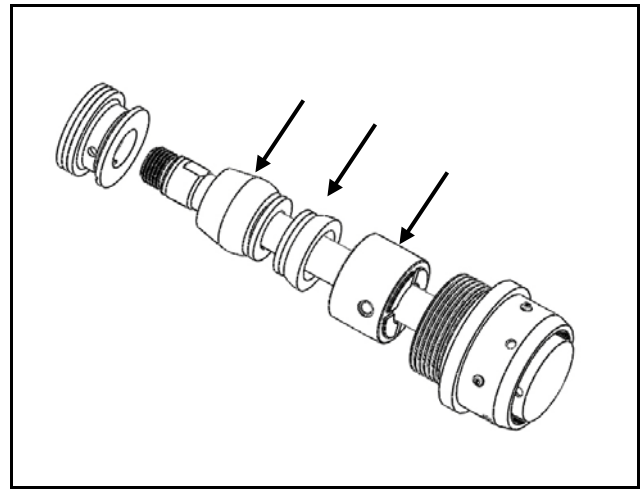

Figure 9 – Piston, Bumpers, and Trolley Order
3. Remove the Long Bumper, Short Bumper, and Trolley from the Impactor (see Figure 9)
4. Reinstall the Long Bumper, Short Bumper, and Trolley in the correct sequence and orientation as shown in Figure 9.